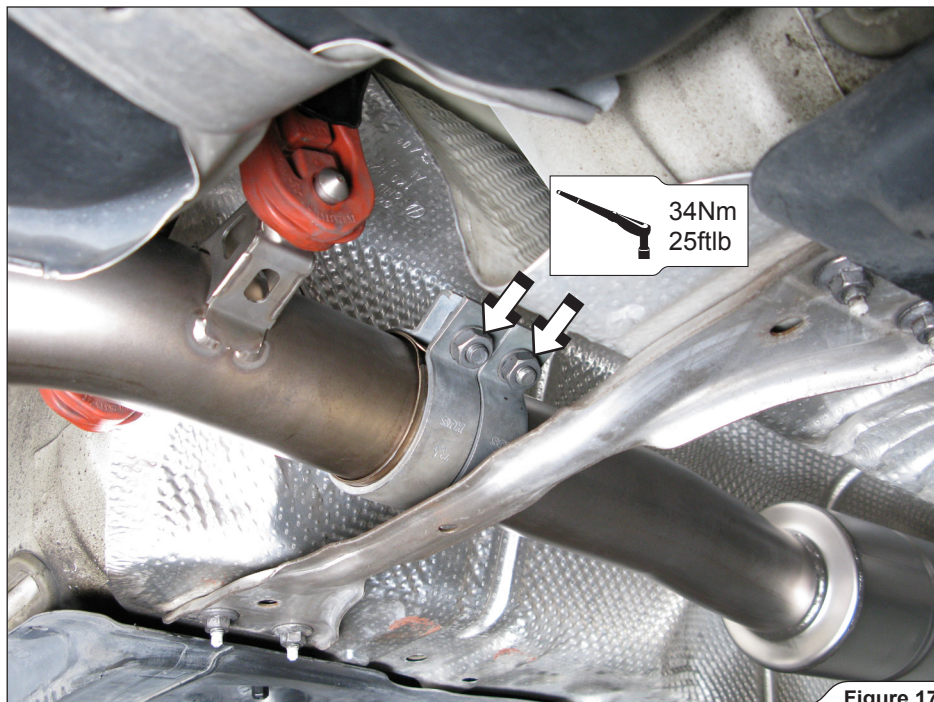

Figure 17
8. **For Slip-On and optional Link-Pipe:** retighten the double clamp to the specified torque (**Figure 17**).